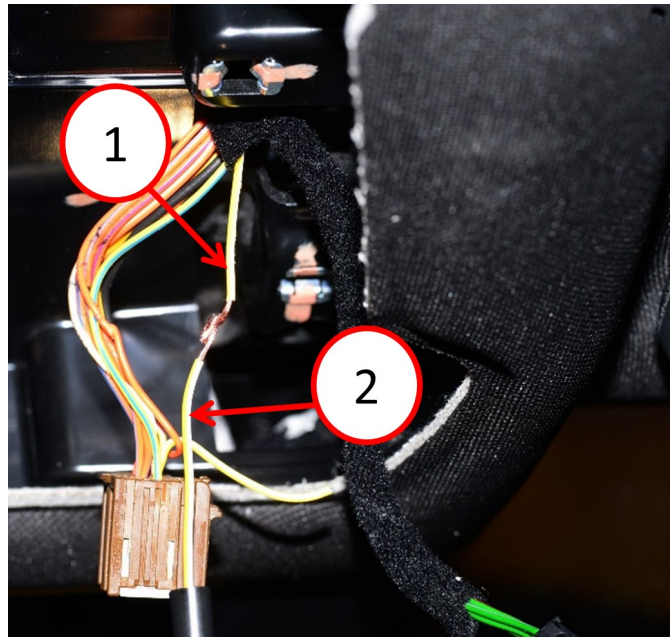

Fig. 4
11. Solder the jumper harness to the dome lamp wire harness (pin 6) yellow/white wire Fig. 4.